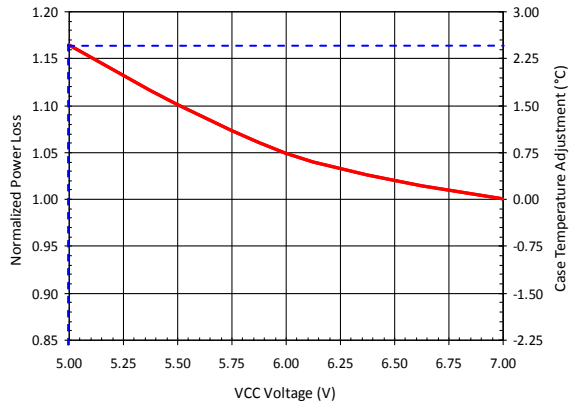

Figure 13: Normalized Power Loss vs. VCC Voltage
- 5) Determine the VCC MOSFET drive voltage normalizing factor with  $VCC=5V$ , which is 1.16 based on the dashed lines in Figure 13.
- 12) Determine the case temperature with VCC = 5V, which is +2.4° based on the dashed lines in Figure 13.